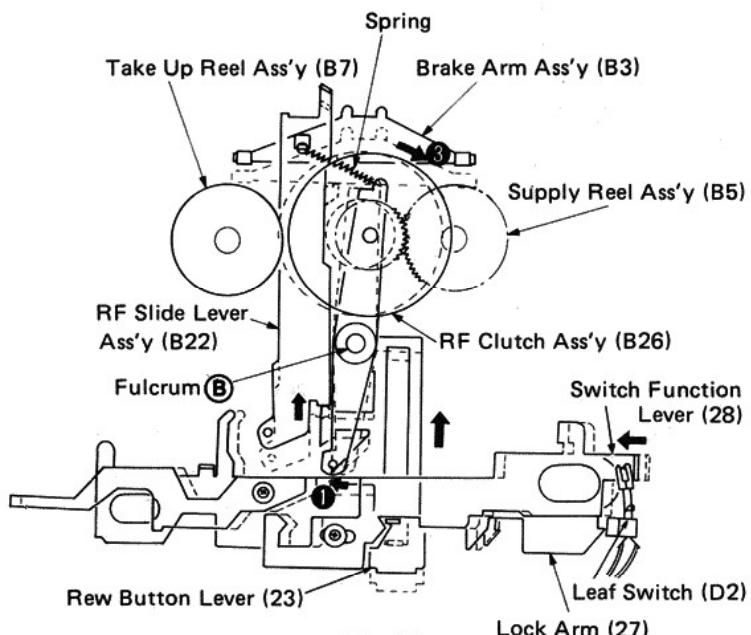

Fig. 23
- When the REW button is pressed, the rewind button lever (23) and the switch function lever (28) are locked by the lock arm (27).
- The leaf switch (D2) is turned on by the switch function lever (28) and the motor begins to run. In this state the RF clutch assembly (B26) also begins to rotate.
- Since the RF slide lever assembly (B22) is pushed by the rewind button lever (23), the brake arm assembly (B3) uncouples from the supply reel (B5) and the take-up reel (B7) to release the brake. (Fig. 23)
- When the rewind button lever (23) is pushed forward, the RF clutch assembly (B26) revolves around the fulcrum ② in direction ①, thus causing its opposite side to move in ③ direction and mesh with the gear of the supply reel assembly (B5). Then the supply reel (B5) rotates to assume the REW mode. (Fig. 23)